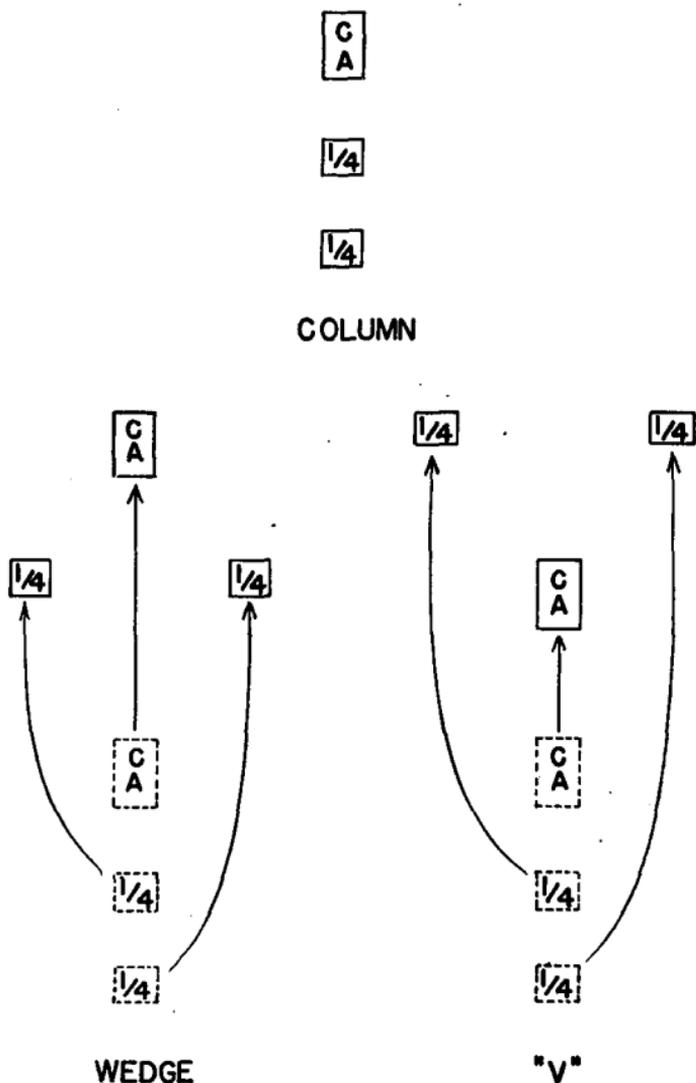

FIGURE 37.—Reconnaissance section.
d. Reconnaissance section.—(1) *Column* (fig. 37).—(See b(1) above.)
(2) *Wedge* (fig. 37).—(See b(3) above.)
(3) “**V**” (fig. 37).—(See b(4) above.)